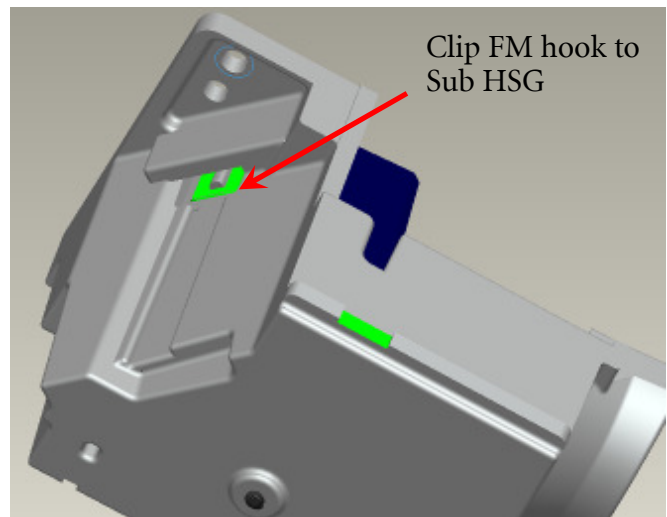

Fig. 2-8
- iii. Check Clip FM hook Sub HSG Well (Fig. 2-8)